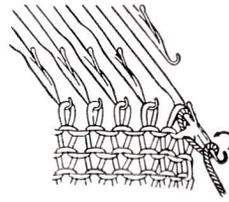

Fig. 61
- b. Pull out the needle having double stitches, place the double stitches behind the latch of the needle. (See Fig. 61)